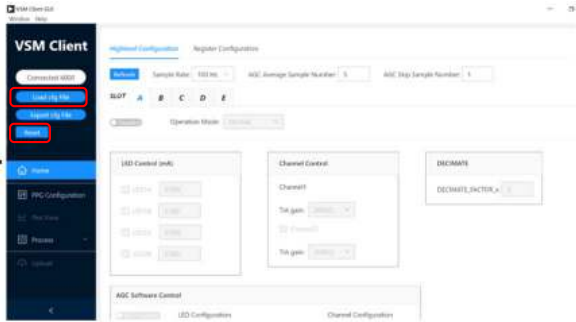

Figure 28. Configuration Interface
1. Click **Load cfg File** in the configuration interface of VSM Client to load a basic configuration file (see Figure 28). To export the current configuration file, click **Export cfg File** to save the script in the configuration file folder (see Figure 30). To change the loaded .dcfg file, click **Reset** before continuing.